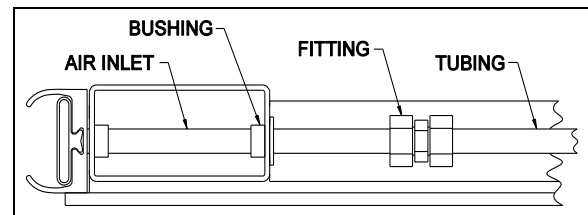

FIGURE 32: REAR SLIDE-OUT INFLATABLE SEAL AIR INLET
2. Unplug the tubing from the inflatable seal air inlet (FIGURE 32). Keep the bushing.
15. Replace the bushing and plug the pneumatic tubing on the inflatable seal air inlet (FIGURE 32).